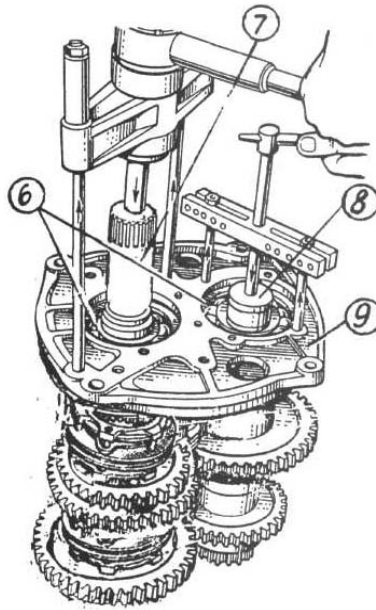

Figure 4.65
- c) press cup 9 (Figure 4.65) together with bearings 6 off shafts 7 and 8;